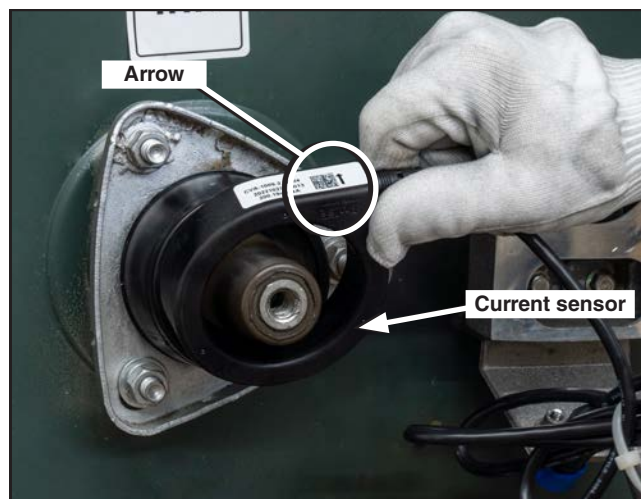

Figure 19. Current sensor installation. The arrow should be pointing toward the transformer.
- STEP 2.** Slide the current sensor onto the H1A bushing well adapter with the arrow pointing toward the transformer, as shown in Figure 19.